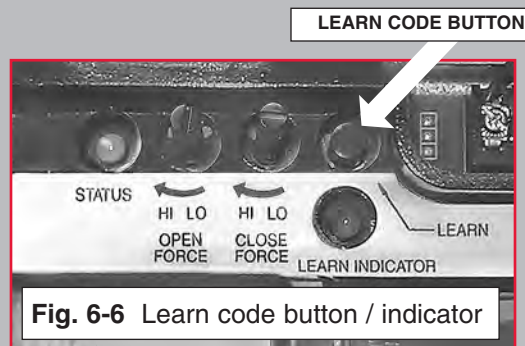

Fig. 6-6 Learn code button / indicator
### 3. Programming door operator (Fig. 6-6).
- Open keypad cover fully—LED blinks one time (Fig. 6-6).